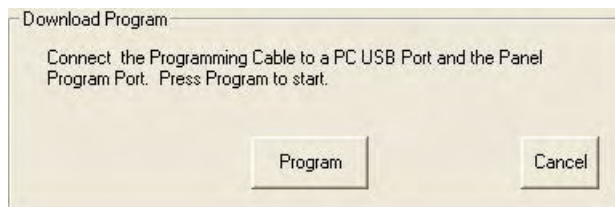

FIG. 89 Download Program window
2. The application will prompt you to connect the USB Programming Cable to a USB port on your PC and the ControlPad's Program port (FIG. 89):